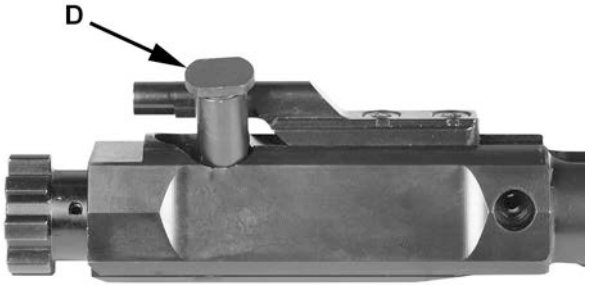

Figure 38
3. Install bolt assembly into bolt carrier. Insert cam pin (D). The hole in pin will align with the hole through the bolt. See figure 38.